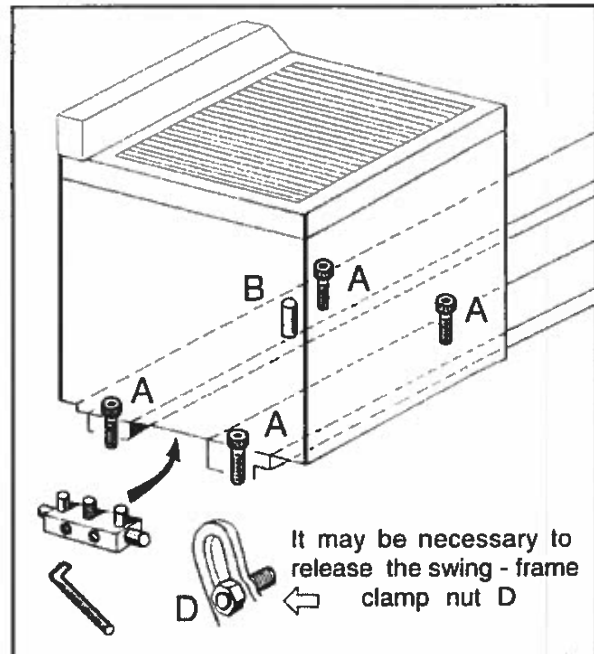

Fig. 17
To correct a greater difference in readings loosen the four headstock screws (A) shown in Fig. 17 then adjust the set over pad C to pivot the headstock about the dowel B. Tighten all securing screws after each adjustment. Repeat the test cut and alignment check until the micrometer readings are within tolerancel.